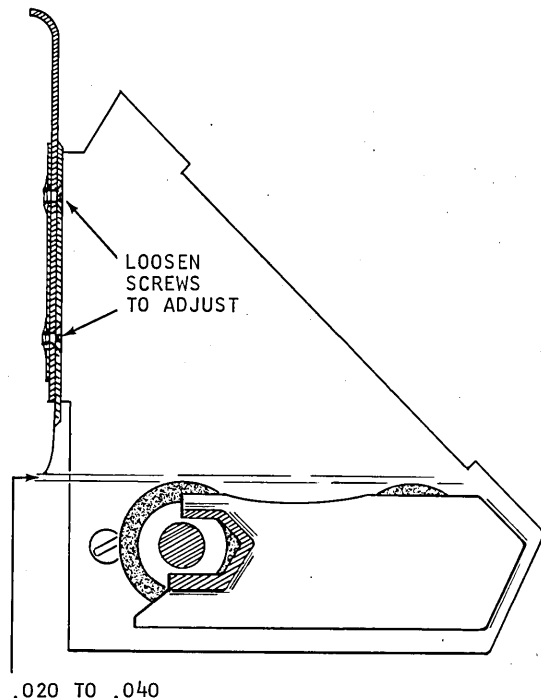

Figure 2-9. File Feed Adjustments
6. The lower magazine throat should be  $.020''$  to  $.040''$  above the imaginary plane determined by the tops of the feed rolls (Figure 2-9).